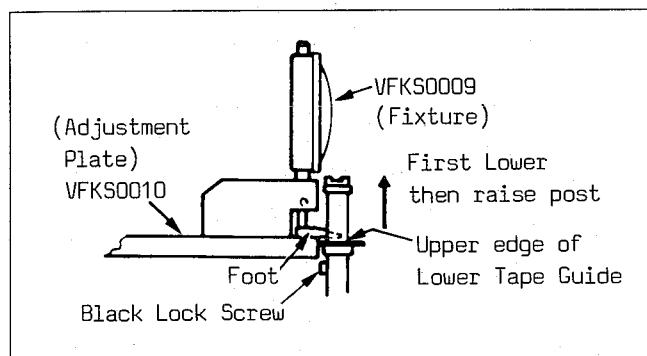

Fig. M7-2
2. First, lower all posts to match the height condition as shown in Fig. M7-2.
3. Place the fixture on the Adjustment Plate and fit the foot to the Adjustment Plate as shown in Fig. M7-2. (The foot of the fixture should be fully lowered until it touches the plate.)